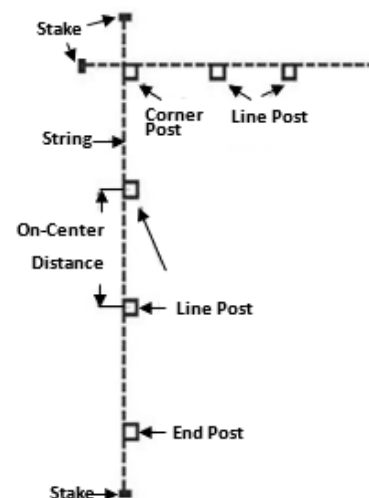

Fig. 1 Sample Staking and Post Layout
- Run a string line to locate the fence line, using the line to establish the outside faces of your posts. **(Fig.1)**